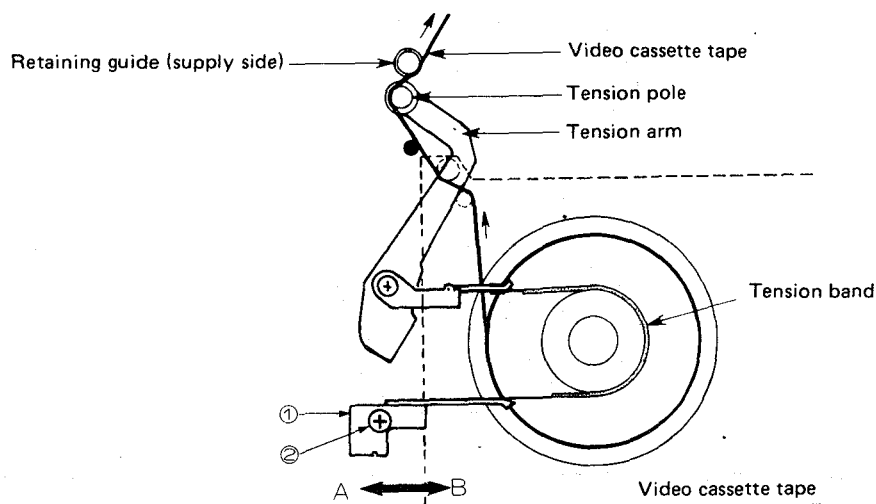

Figure 51.
In Fig. 51, loosen the screw ② a little and shift the tension band angle ① in the arrow direction ③ to retighten the screw ②.
In Fig. 51, loosen the screw ② a little and shift the tension band angle ① in the arrow direction ④ to retighten the screw ②.